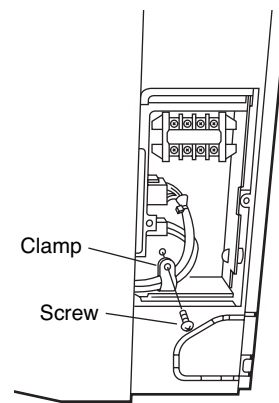

Fig. 3-43
- (2) Remove the clamp for the wiring connector. (Fig. 3-43)